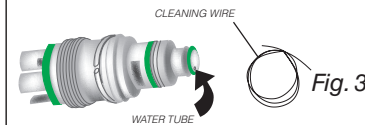

Fig. 3
- Insert cleaning wire, StarDental Part #256719, into water tube of swivel. When wire will not insert, move wire back and forth to loosen debris at blockage. (Fig. 3)